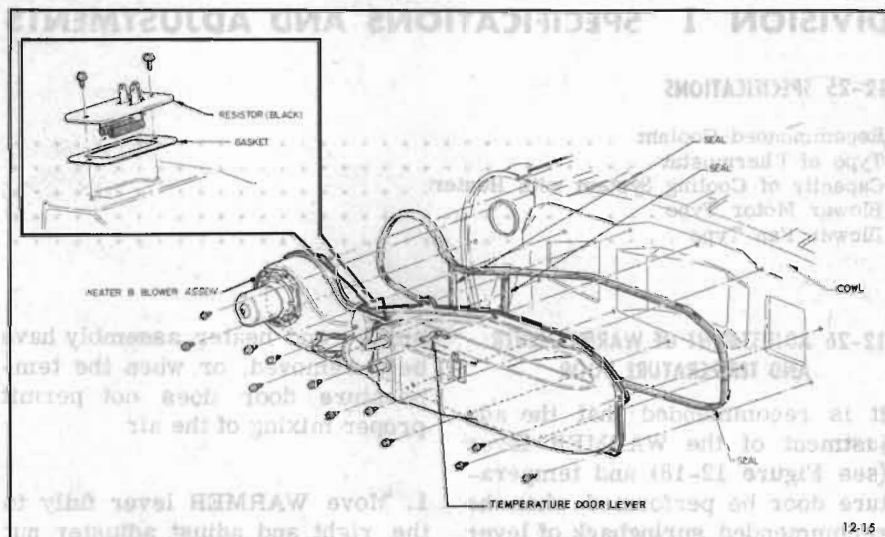
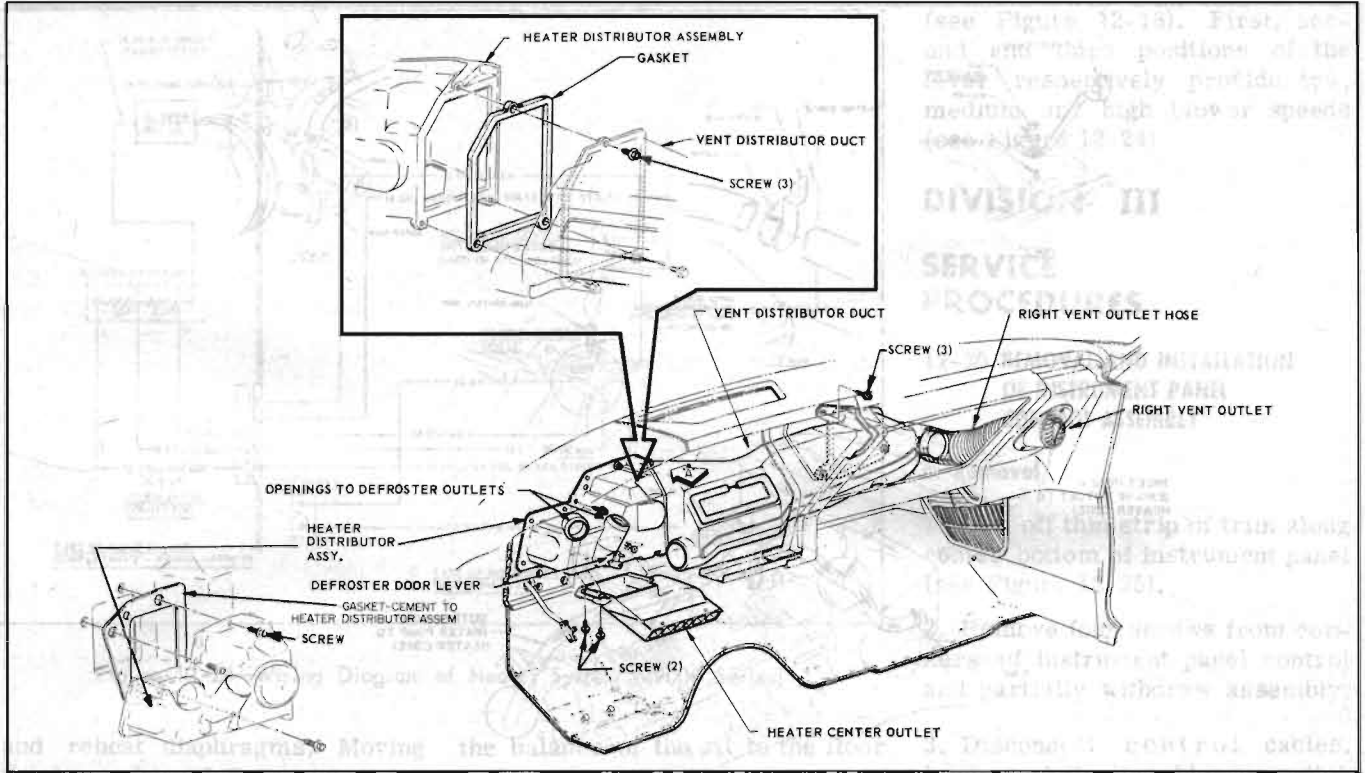
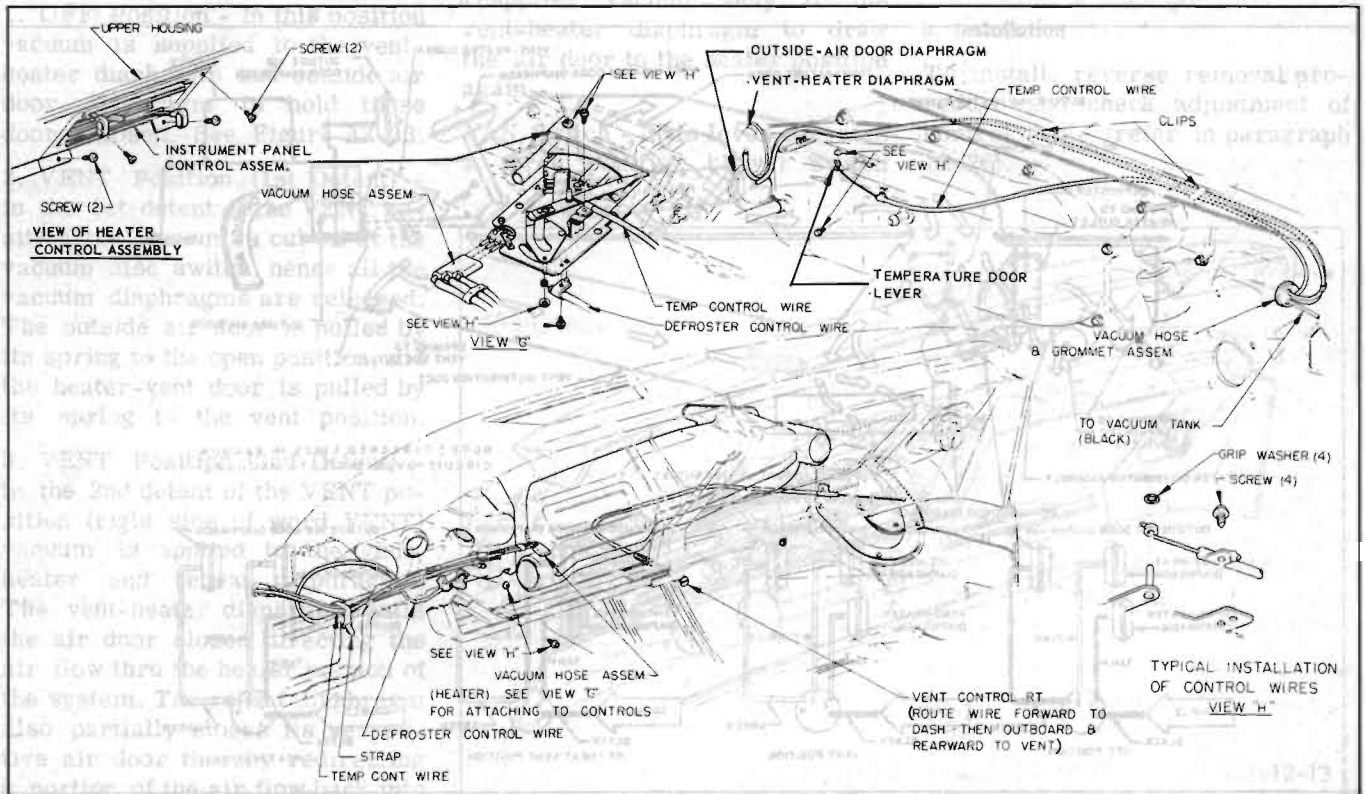
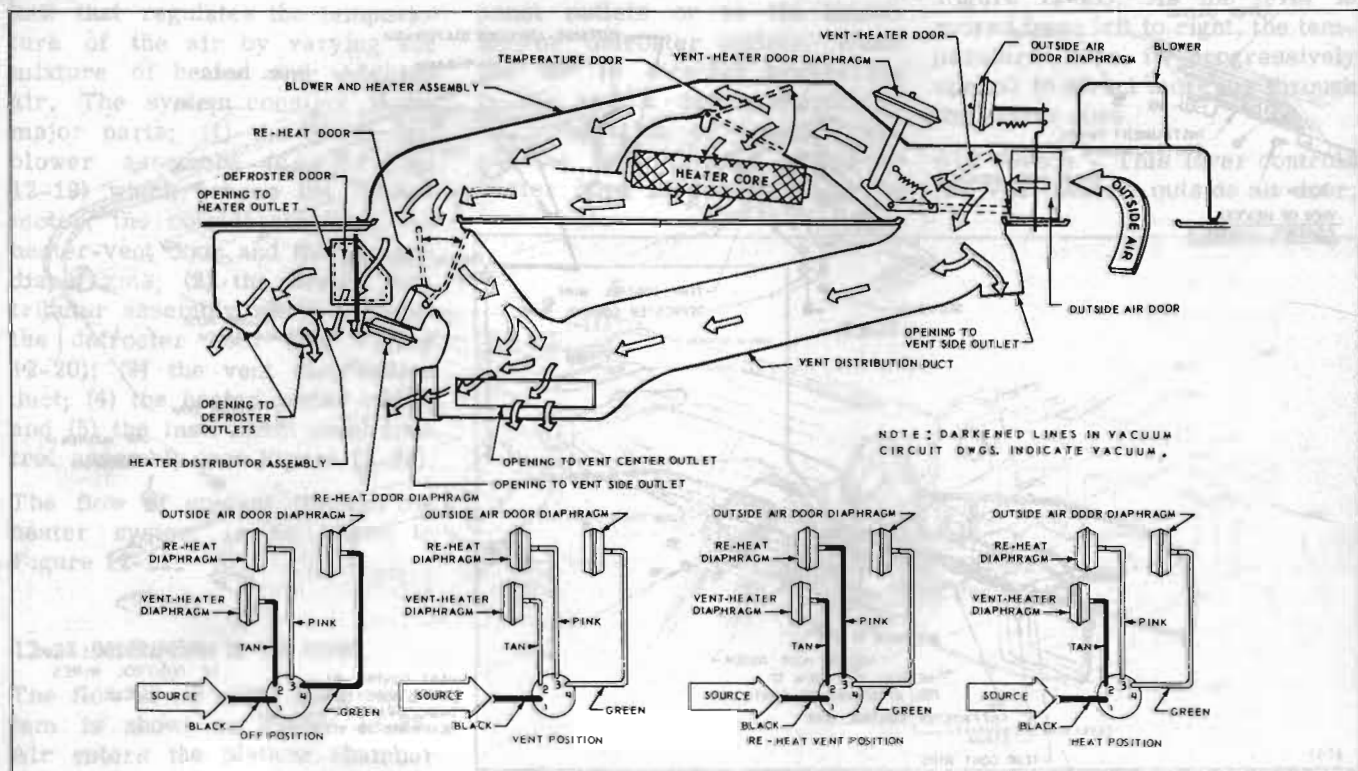

Figure 12-19—Blower and Heater Assembly Installation (49000 Series)
Figure 12-20—Heater Distributor Assembly Vent Distributor Duct and Center Outlet Installation (49000 Series)
Figure 12-21—Vacuum Line and Control Cable Installation (49000 Series)
Figure 12-23—Heater System Air Flow (49000 Series)
The heater system for 49000 Series cars is an air mix type unit that regulates the temperature of the air by varying the mixture of heated and unheated air. The system consists of six major parts: (1) the heater and blower assembly (see Figure 12-19) which houses the blower motor, the outside air door, the heater-vent door and the vacuum diaphragms; (2) the heater distributor assembly which contains the defroster door (see Figure 12-20); (3) the vent distribution duct; (4) the heater center outlet; and (5) the instrument panel control assembly (see Figure 12-21).
The flow of air in the heater system is shown in Figure 12-23. Air enters the plenum chamber thru opening forward of the windshield (not shown in illustration).
WARMER Lever - This lever regulates the position of the temperature door (see Figure 12-23) thru action of a control cable (see Figure 12-21). As the lever is moved from left to right, the temperature door is progressively opened to direct more air through the heater core.
1. OFF Position - In this position vacuum is supplied to the vent-heater diaphragm and outside air door diaphragm to hold these doors closed. See Figure 12-23.
1. Remove two screws and lower out heater center outlet (see Figure 12-20).
3. Disconnect defroster control wire from defroster door lever (see Figure 12-21).
remove assembly (see Figure 12-20).
distributor assembly and three screws securing right end of duct to cowl, then remove duct (see Figure 12-20).
2. Disconnect vacuum hoses attached to vacuum diaphragms. See Figure 12-21.
6. Remove 12 screws securing blower and heater assembly to cowl and remove assembly (see Figure 12-19).
Insufficient Heating	<p>Kinked vacuum hoses or defective vent-heater and outside air door vacuum disc switch - Check that there is no vacuum applied to diaphragm of outside air door, and that vacuum is applied to diaphragm of vent-heater door (see Figure 12-23) when air lever is in HTR position.</p> <p>Sticking outside air door - Disconnect door lever spring and move door lever to check for smooth operation.</p> <p>Temperature door does not open sufficiently - Check operation and adjustment of door and WARMER control lever (refer to paragraph 12-26).</p> <p>Insufficient coolant or plugged heater core - Feel and compare temperature of heater core inlet and outlet pipes. Both hoses should be hot and approximately same temperature.</p>
Insufficient Air thru Instrument Panel Outlets	<p>Kinked vacuum hoses or defective vent-heater and outside air vacuum disc switch - Check that no vacuum is applied to either outside air or vent-heater diaphragms when air lever is in VENT position (see Figure 12-23).</p> <p>Sticking outside air and or vent-heater doors - Disconnect door lever springs and move door lever to check for smooth operation.</p> <p>Defective vent-heater diaphragm - Substitute new diaphragm.</p>